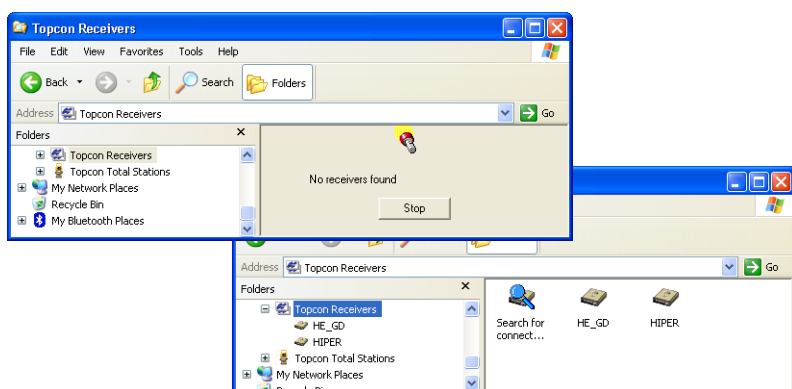

Figure 5-1. Searching and Finding Topcon Receivers in Windows Explorer
2. Open Windows Explorer and click the Topcon Receiver folder. The right panel of the window displays the automatic start of searching for Topcon receivers connected to any of the computer ports (COM and USB) (Figure 5-1).
3. When finished, all receivers connected to the computer ports (Figure 5-1) display.